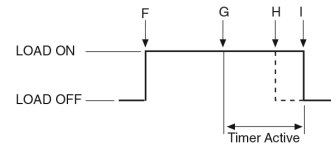

Figure 3: Off count down
In this mode the load is initially in Off state (refer Figure 3). Unit is activated as soon as Start button is pressed (point F) and the load comes On and will remain On till further action. Please note that the unit is functioning as a switch and timer is not in action yet. The timer will be activated when the Start button is pressed again (G). The unit will start counting down to the set time and will be deactivated when timer has expired (I). The load will be switched Off if start button is pressed before timer has expired.
In this example, the timer is set to function in Off Delay mode (D2) with a Timer Active period of 40 minutes (see operation diagram, Figure 3).